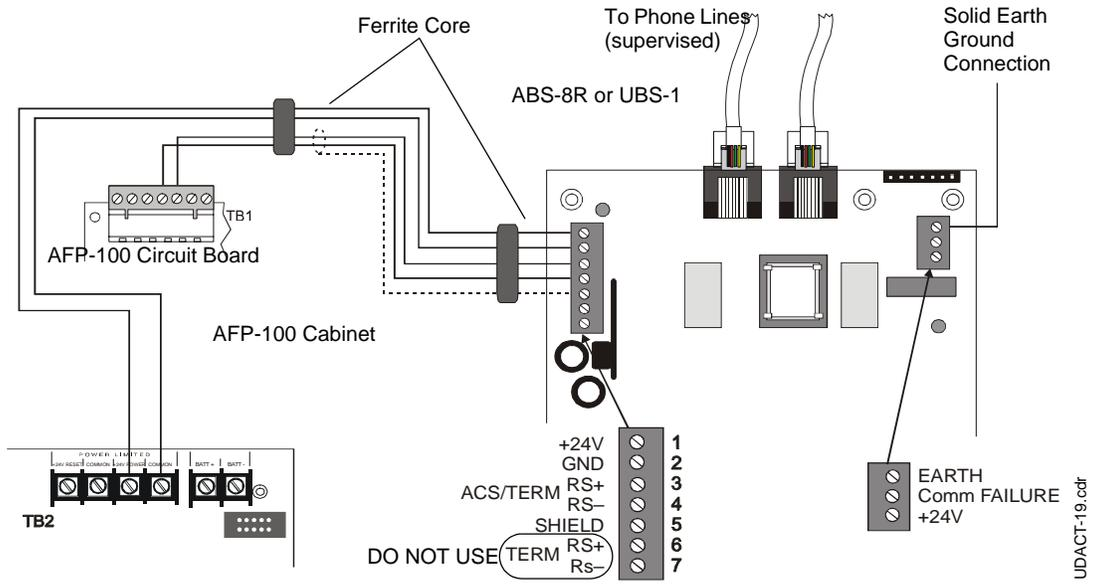

Figure A.2 UDACT and AFP-100
For external connections refer to Figure A.2 on page 65.
2. Recommended wire is 12 AWG (3.25mm²) to 18 AWG (0.75mm²), twisted pair, shielded cable. Connect only one end of shield: a) shield may be connected to cabinet (earth ground) at fire alarm panel, or b) shield may be connected to TB1 Terminal 5 (Shield) at UDACT as shown in Figure A.2.